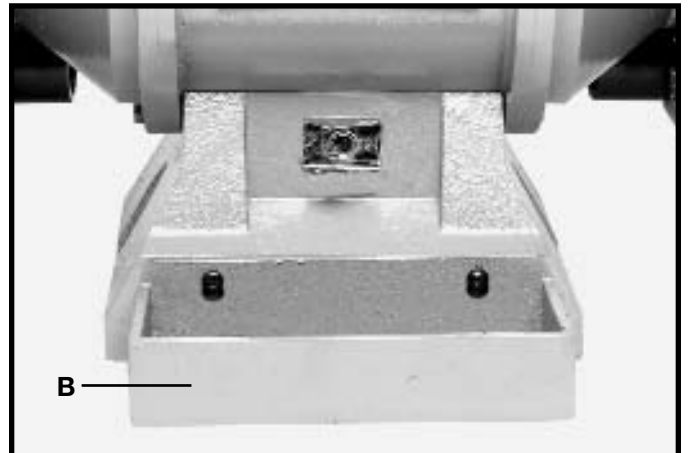

Fig. 8
To assemble the water tray (B) Fig. 8, align holes in the water tray, with the holes in the front of the grinder, insert two screws (5) Fig. 2, and tighten securely.